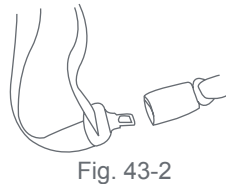

Fig. 43-2
9. A lap/shoulder combination seat belt with a **buckle that can slide freely** along the seat belt may require the use of a locking clip (Fig. 43-2). Check your vehicle's owner's manual to see if the vehicle manufacturer has provided an alternate manner, such as a locking retractor in which to prevent movement of the lap portion of the seat belt.